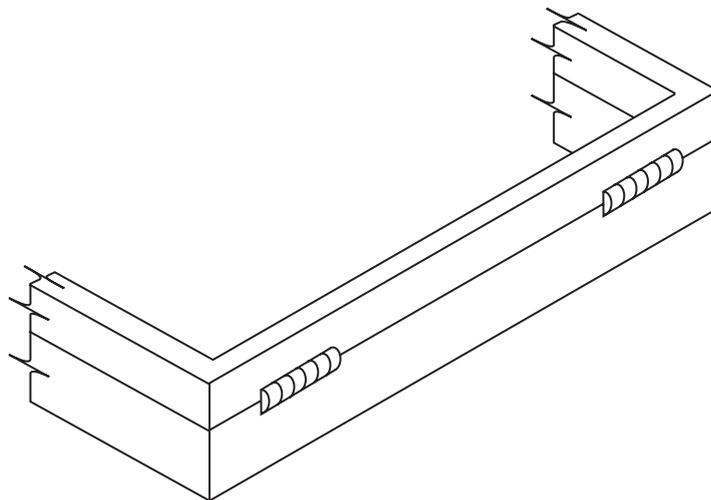

Fig. 7
- (c) Fig. 7 shows a pair of the fixings on a small box. Use notes and sketches to show the method of marking out and fitting one of the fixings to the box.